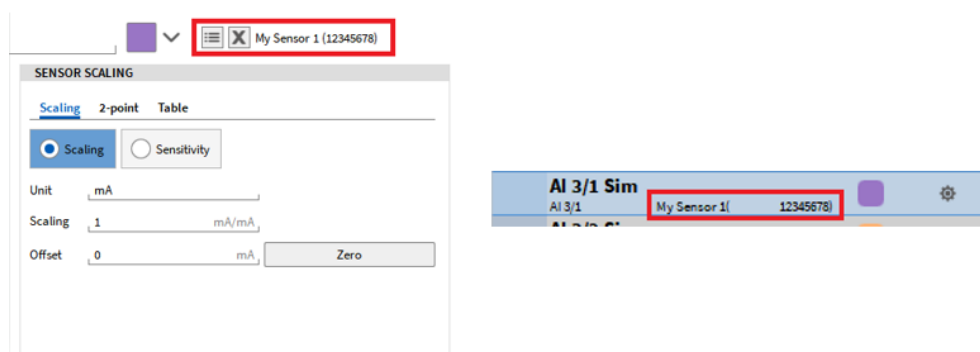

Figure 4-43: Name of chosen sensor for the channel seen in the channel list and channel settings
- The parameters of the sensor will be applied on the channel. This can be recognized by the name of the sensor, which will be displayed in the channel settings and in the channel list seen in Figure 4-43.
- To remove an applied sensor from a channel simply click on the X button next to the sensor name in the channel settings (see Figure 4-43).